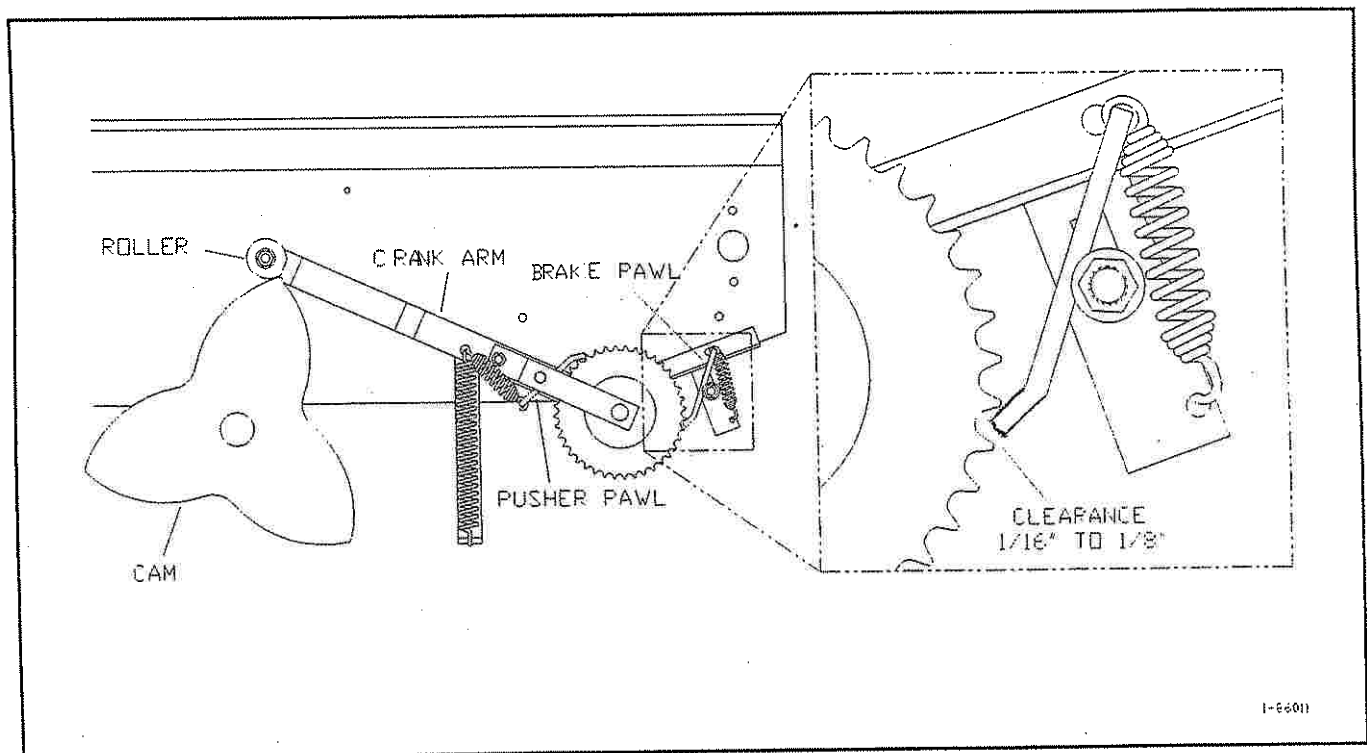

Figure 4C- Adjusting the Rear Brake Pawl
1. Refer to Figure 4C.
2. Remove the shield covering the brake pawl assembly by removing the two (2) bolts, washers, and nuts holding it in place.
4. With the roller positioned at the highest point on the star cam, tap the brake pawl up or down as necessary to attain a 1/16" to 1/8" clearance between the brake pawl and the sprocket tooth (see close-up detail in Figure 4C).